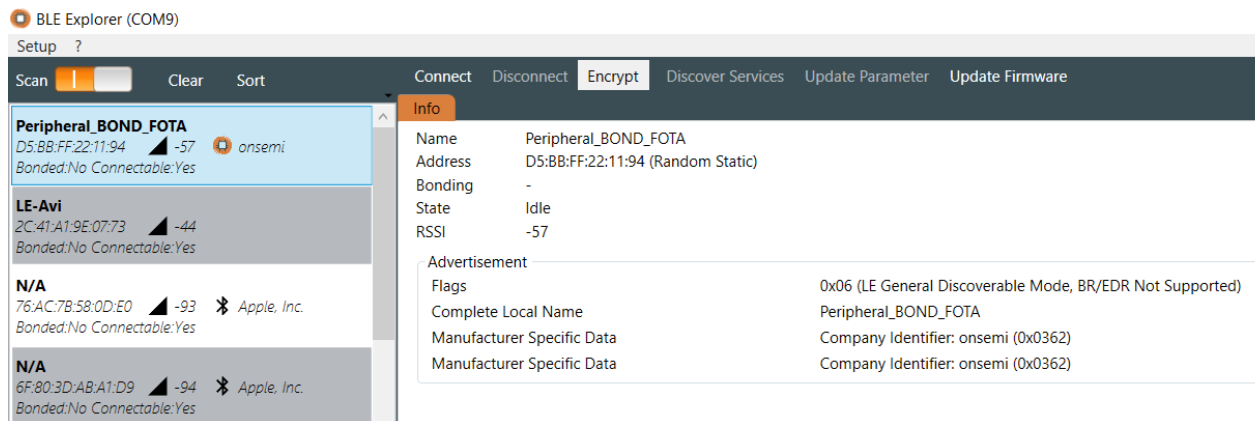

Figure 17. Application Running
- Verify that your application is running by looking for the advertisement name **Peripheral_BOND_FOTA** on the RSL10 Bluetooth Low Energy Explorer, as in Figure 17 on page 32: